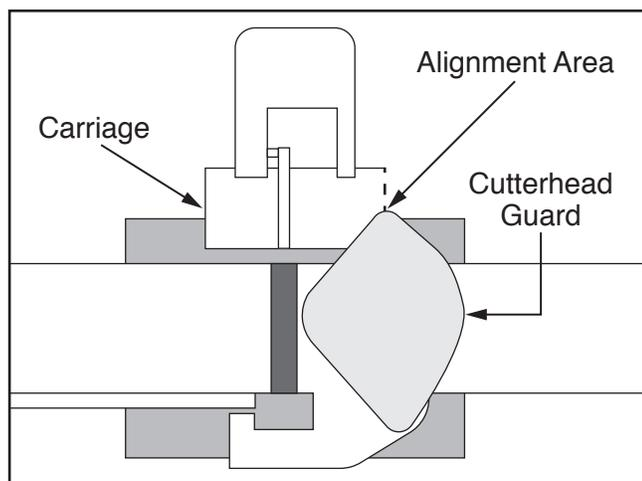

Figure 18. Cutterhead guard aligned with carriage.
13. Align corner of cutterhead guard with edge of carriage, then secure set screw, 1/4"-20 x 1/2" Phillips head screw, and 5/8" flat washer removed in **Step 12** (see **Figure 18**).